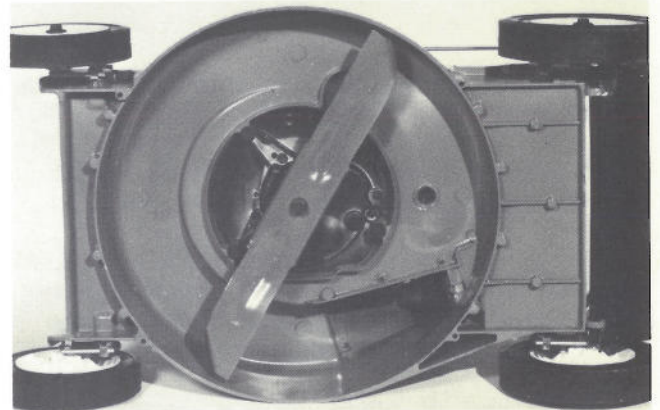

Figure 34
3. Tip mower on its right side (Fig. 34). Avoid rotating the blade when mower is tipped because starting problems may result.